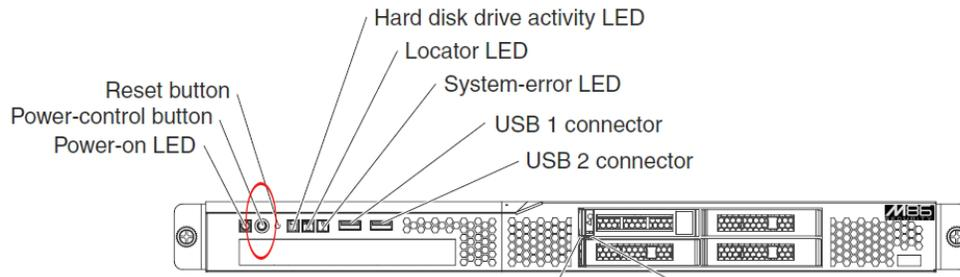

Fig. 9 - 505 model front panel, power button at far left
- C. Using a stylus or similar tool, depress the small white power button at the left of the front panel (see Fig. 9).